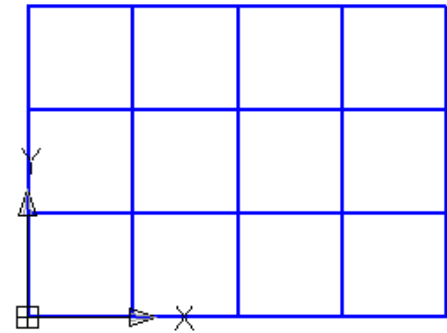

Figure Step 9
Step 9 Change the view to Top. (Figure Step 9)